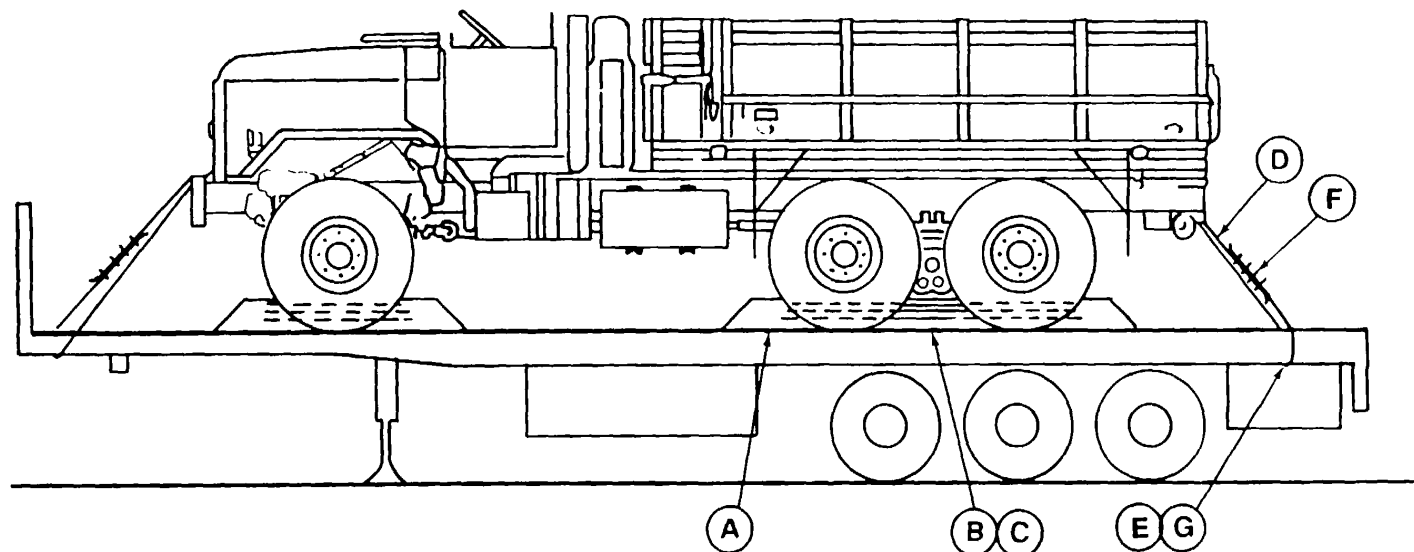

Figure 5-2. Blocking and tiedown diagram for the M942 chassis and the M927, M928, M931, <932 trucks and truck-tractors on an M872 semitrailer (side).
(1) The M942 chassis, M927, M928, M931, and M932 may be driven onto the semitrailer by using suitable ramps or a loading dock. They may also be lifted onto the semitrailer by a crane of adequate capacity as described in paragraph 6-4b(2).
(2) The bill of materials for blocking and tiedown of the 5-ton trucks and truck-tractors on a semitrailer is shown in table 5-3. Blocking and tiedown diagrams compatible with standard loading practices that will offer adequate restraint are provided in figures 5-2 through 5-4. Data concerning application of materials are provided in table 5-4.
Table 5-3. Bill of Materials for Blocking and Tiedown of the 5Ton Truck or Truck-Tractor on an M872 Semitrailer (Figs 5-2 through 5-4)
Table 5-4. Application of Materials for Blocking and Tiedown of the 5-Ton Truck or Truck-Tractor on an M872 Semitrailer (Figs 5-2 Through 5-4)